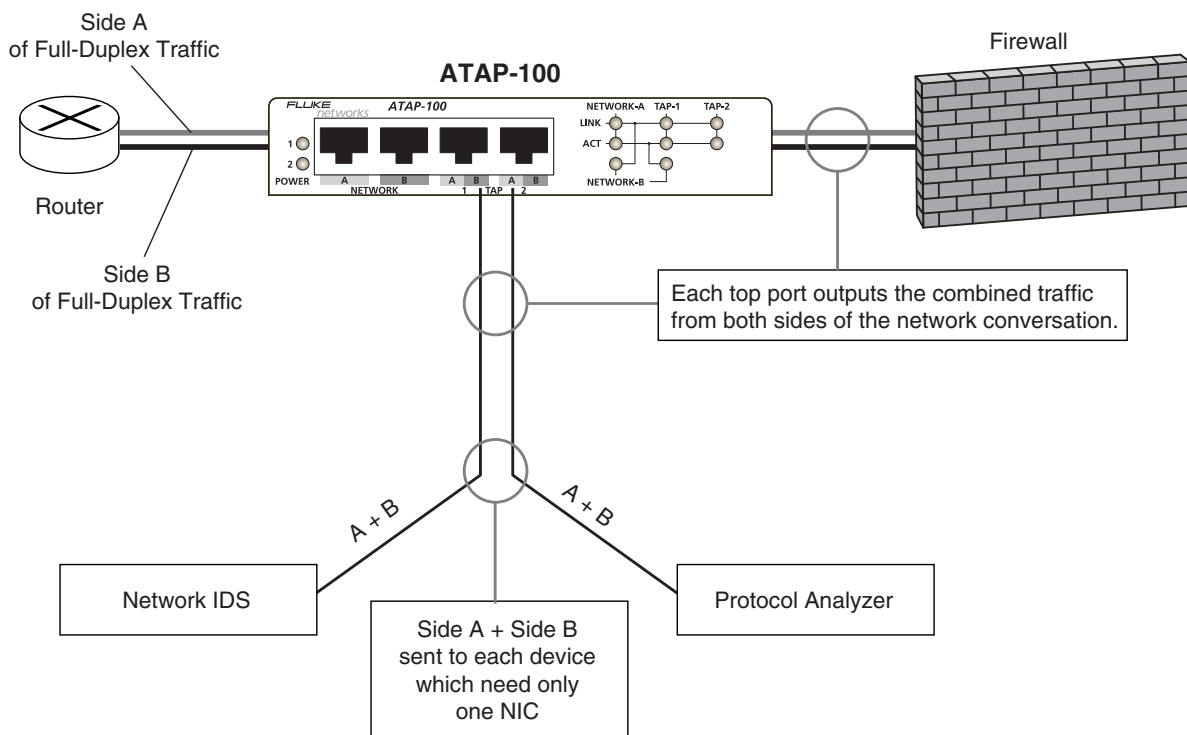

Figure 1. Typical ATAP-100 Link Aggregating In-Line Tap connectivity diagram
**Figure 1** depicts a typical ATAP-100 Link Aggregating In-Line Tap scenario. Two monitoring devices receive all the combined traffic from both sides of the network conversation. Only one NIC is required by each device to see the combined traffic.